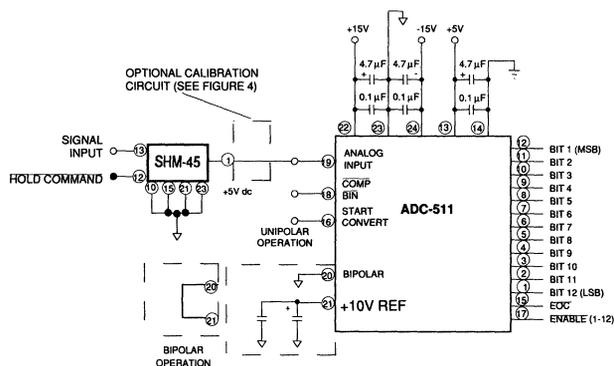

Figure 2. Typical Input Connections for the ADC-511
- Applications unaffected by endpoint errors or those that remove them through software will use the typical connections shown in Figure 2. The optional external circuitry of Figure 4 removes system errors or helps adjust the small initial errors of the ADC-511 to zero. The external adjustment circuit has no effect on the throughput rate. Table 1 shows how to select the input range.
- The data outputs should be connected to LED's to observe the resulting data values. Connect the converter per Figure 2, Figure 4, and Table 1 for the appropriate Full Scale Range (FSR). Apply a pulse of 200 nanoseconds minimum to the START CONVERT input (pin 16) at a rate of 250 KHz. This rate is chosen to reduce flicker if LED's are used on the outputs for calibration purposes.